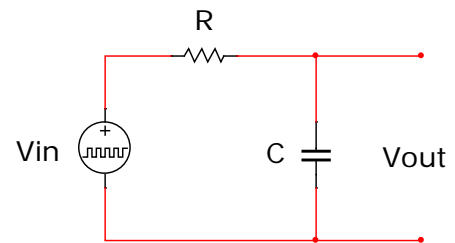
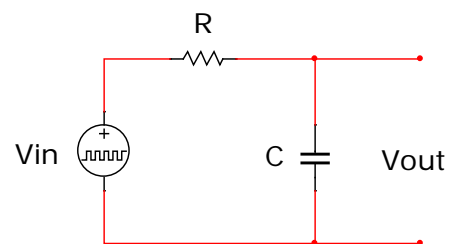

Figure 1. First order RC circuit.
Figure 5. First order RC circuit.
These are the circuits you'll be experimenting with in this lab in figures 1 and 2.
The first order circuit in figure 1 is called that because it contains only one energy storage component, i.e., one capacitor.
Assume the input signal, V_{in} , to the circuit in Figure 5 (same as figure 1) is a perfect square wave with amplitude A (from 0 V to A), and a period T where $T \gg RC$. Using only symbolic parameters, no numerical values, derive equations for the following. With ideal components, rising and falling times will be exactly symmetric.
From the equations for $V_{out}(t)$ for the circuit in Figure 5:
1. Build the circuit in Figure 5 using the following component values. Measure your resistor.